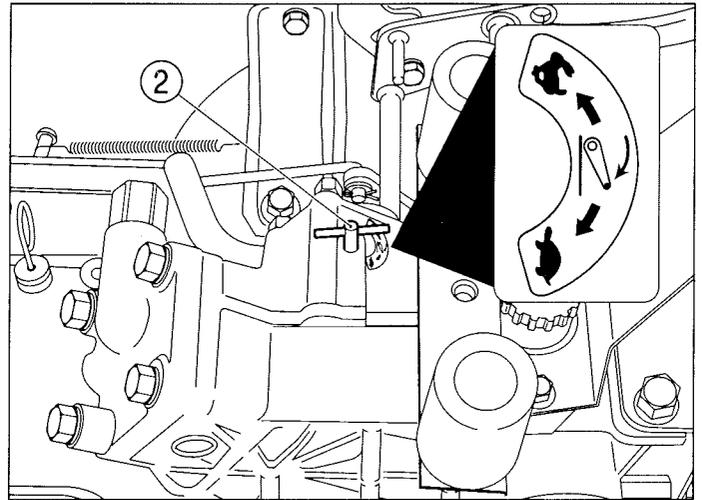

FIG. 58
FIG. 58: Lowering Rate Control Handle (2) controls the discharge rate of hydraulic oil thus adjusting lowering speed of the hitch and implement. Turn the handle clockwise to slow drop rate, counterclockwise to increase drop rate. Turning the handle fully clockwise will lock the implement in raised position.